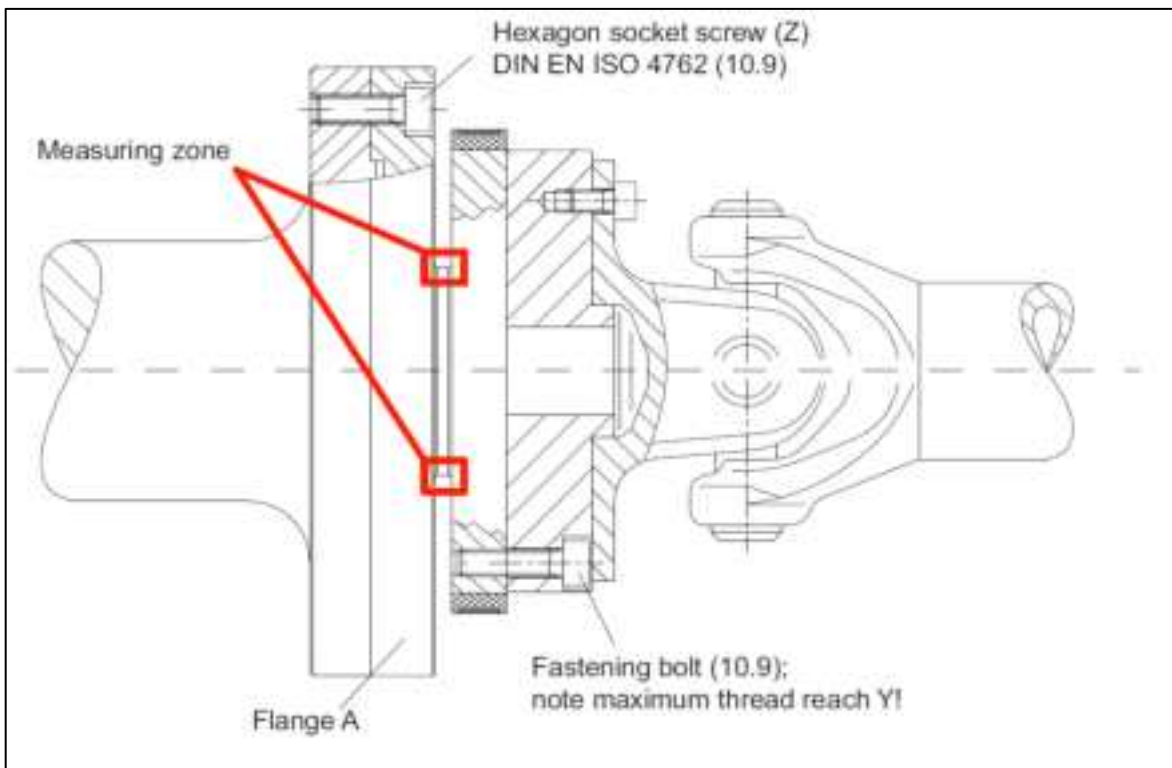

Fig. 5.1: Bolted rotor connection
Make sure during installation that you do not damage the measuring zone marked in Fig. 5.1 by using it to support tools or knocking tools against it when tightening screws, for example. This can damage the transducer and produce measurement errors, or even destroy the transducer.
2. For the connection of flange A (see Fig. 5.1), use DIN EN ISO 4762 property class 10.9 hexagon socket screws of a suitable length (dependent on the connection geometry, see Tab. 5.1).